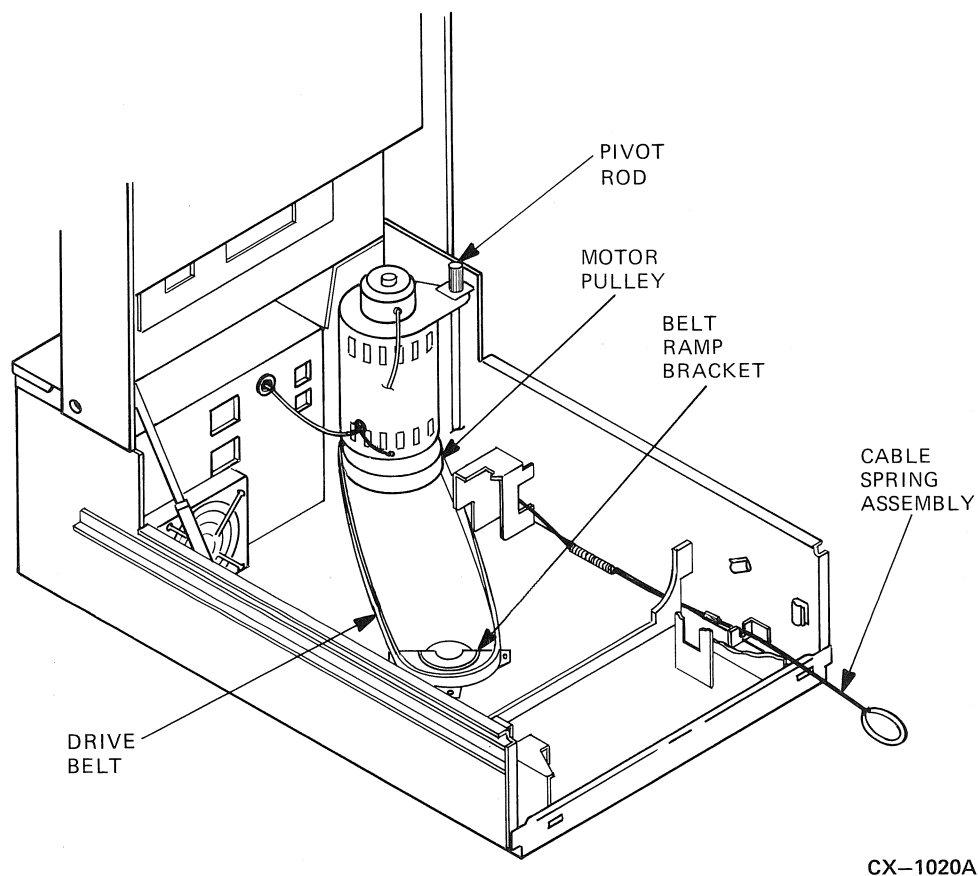

Figure 5-24 Belt Alignment
3. Center the drive belt on the belt ramp bracket on the lower chassis as illustrated in Figure 5-24.